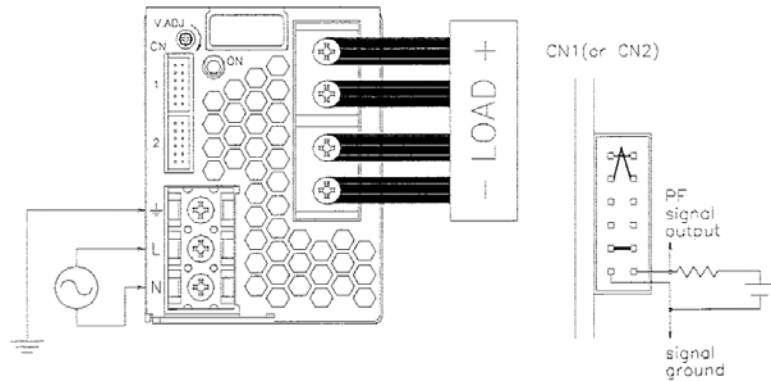

FIGURE 4. REMOTE ON-OFF CONTROL
3-3. Power Fail (PF) Signal (See Figure 4.)